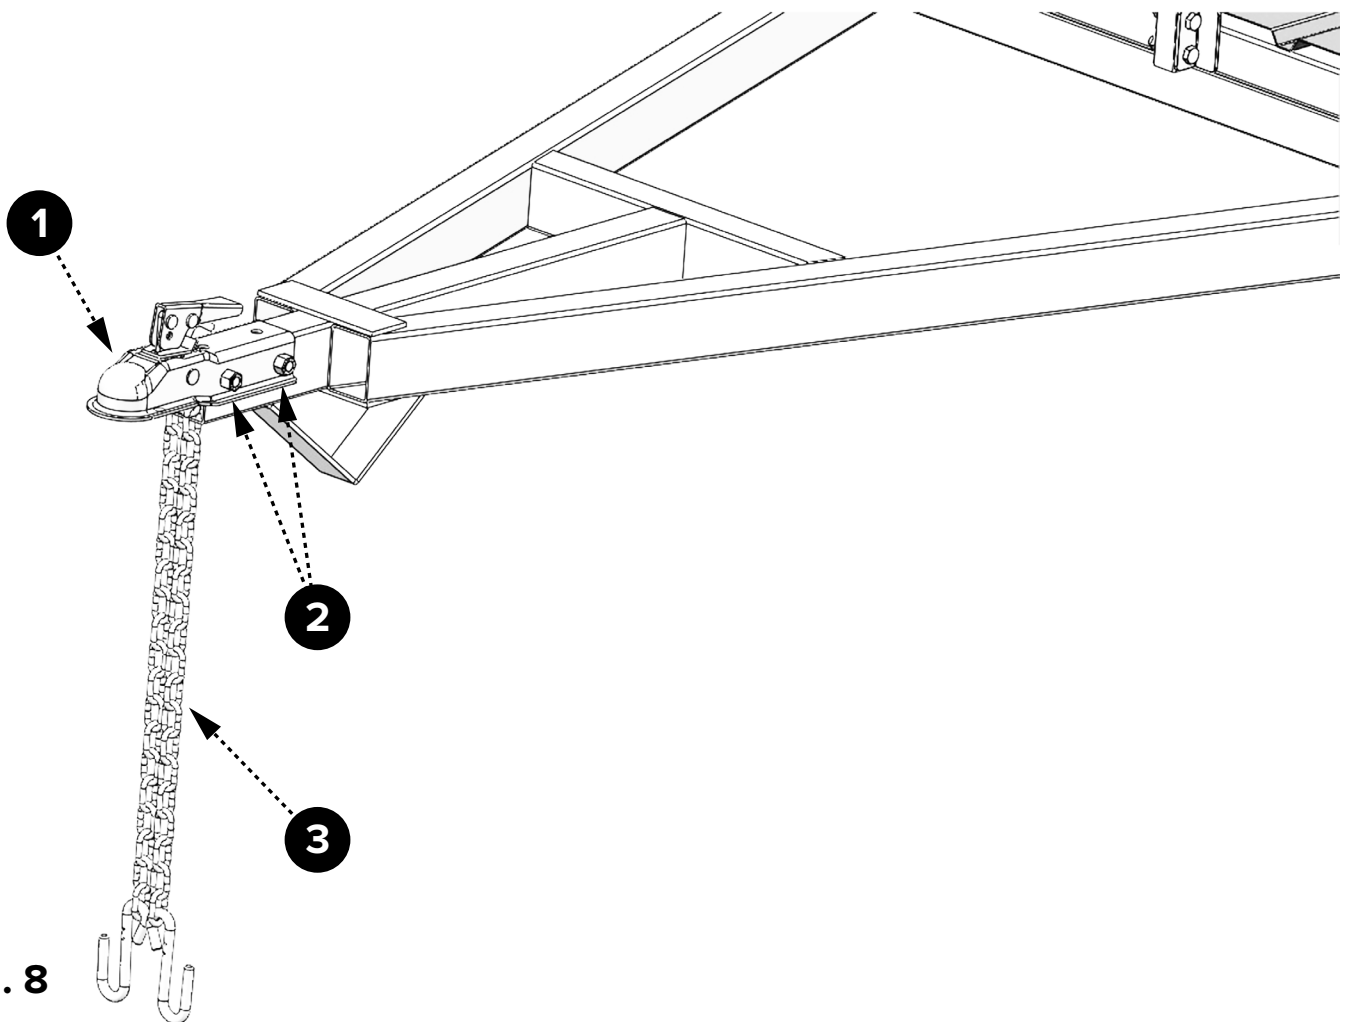

Fig. 8
1. Install the coupler (1) and safety chain (3) using two M12 x 70 (2) bolts and nuts provided (Fig. 8).
2. The front bolt passes through the end link of the safety chain (3) as it is inserted through the drawbar tubes.